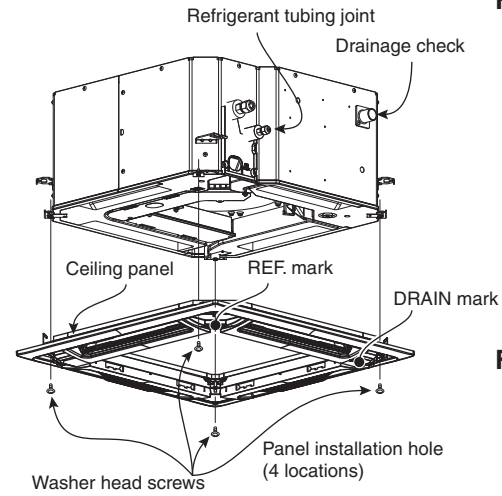
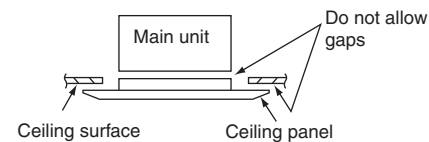

Fig. 3-45
Fig. 3-46
- (2) Align the panel installation holes and the unit screw holes. (Fig. 3-45)
- (3) Tighten the supplied washer head screws at the 4 panel installation locations so that the panel is attached tightly to the unit.
- (4) Check that the panel is attached tightly to the ceiling. (Fig. 3-46)